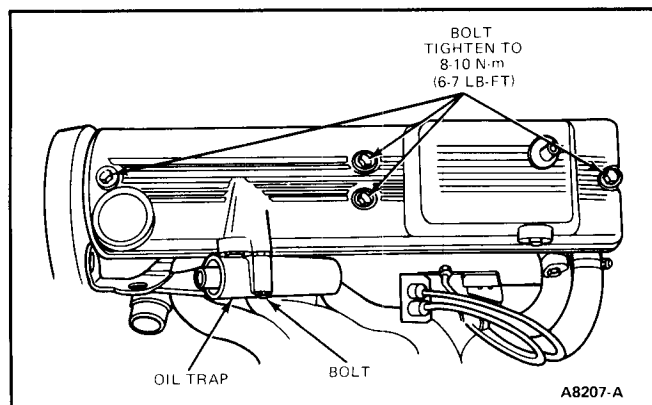

FIG. 12 Rocker Arm Cover—Removal and Installation
- Remove threaded sleeves attaching rocker arm cover to cylinder head and remove cover (Fig. 12).